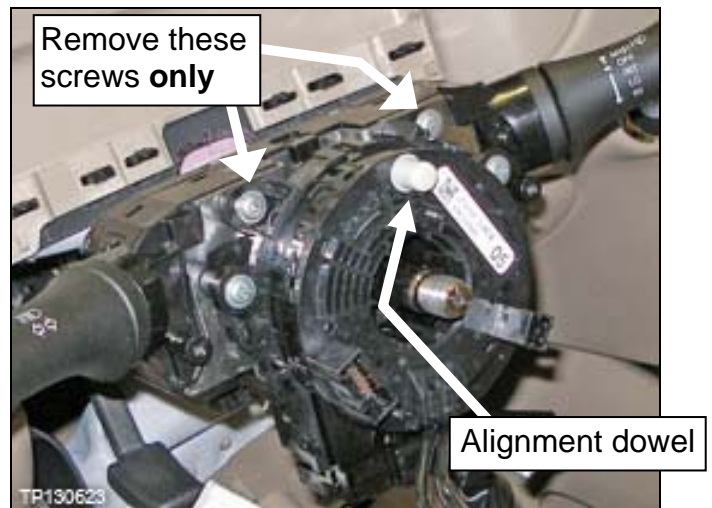

Figure 20
b. Remove the two (2) upper screws where shown in Figure 20.